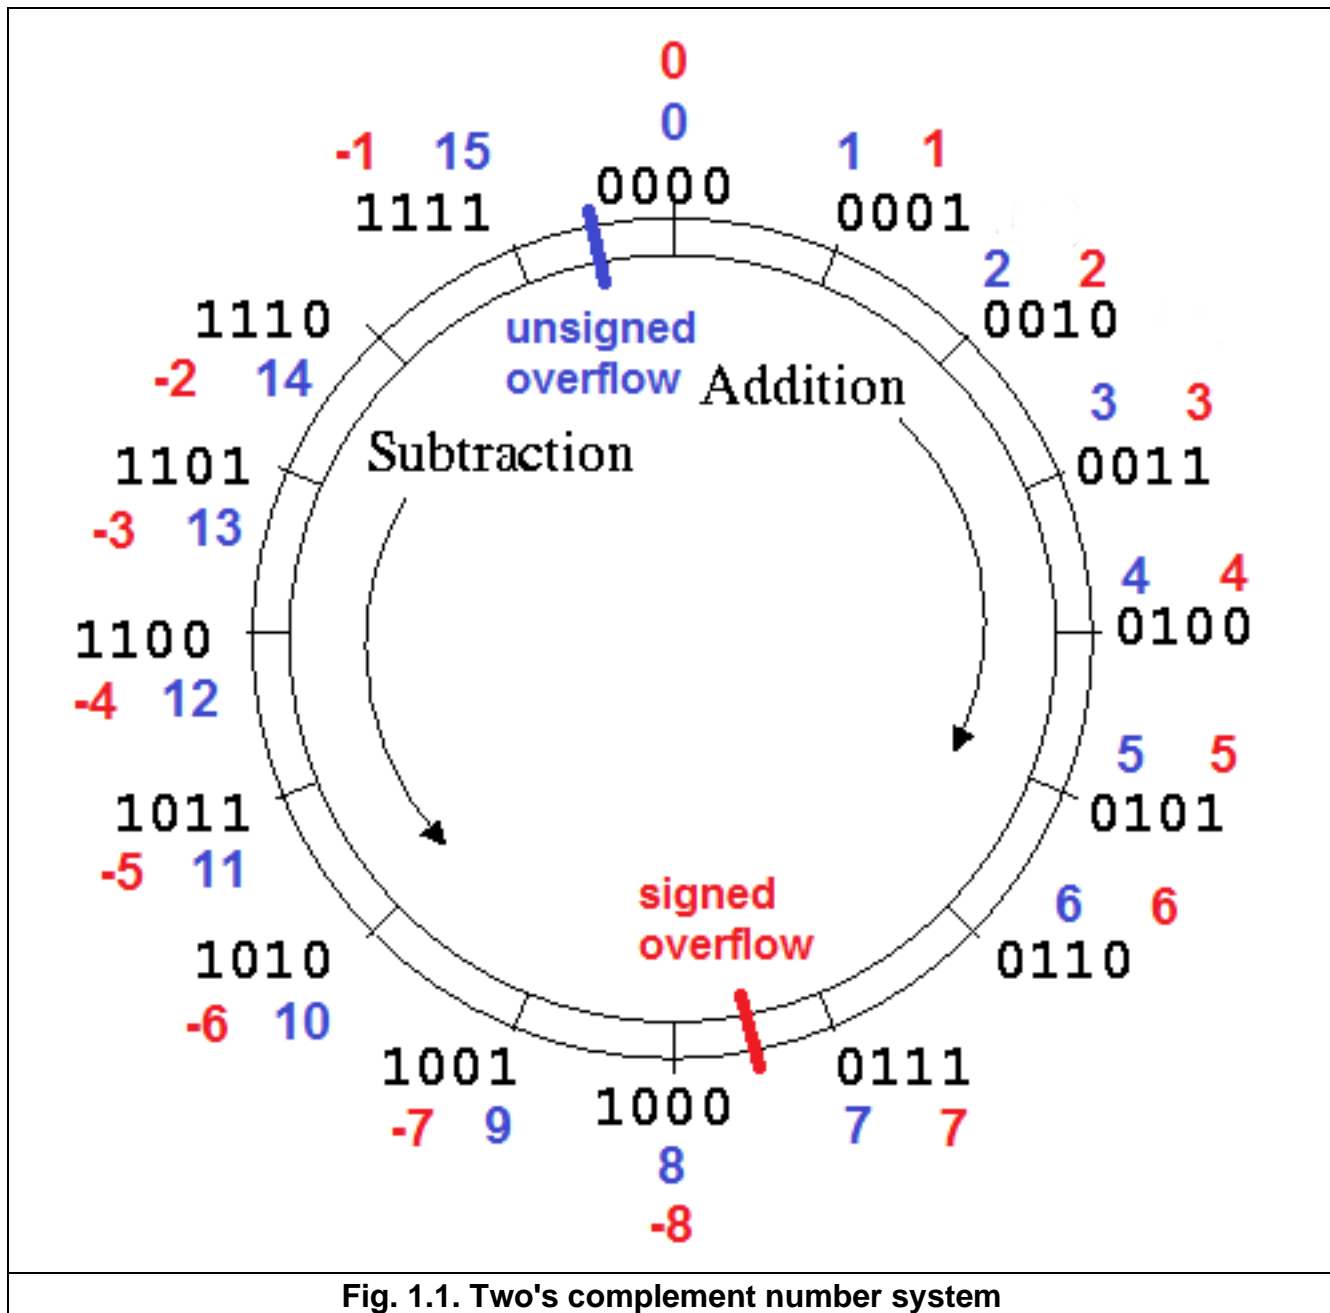

Fig. 1.1. Two's complement number system
This behavior is illustrated in the wheel on figure 1.1. You add one by going one step clockwise. When you pass 1111 (15) you will see the number overflow back to zero. The binary numbers are shown in black. The unsigned decimal numbers are shown in blue.